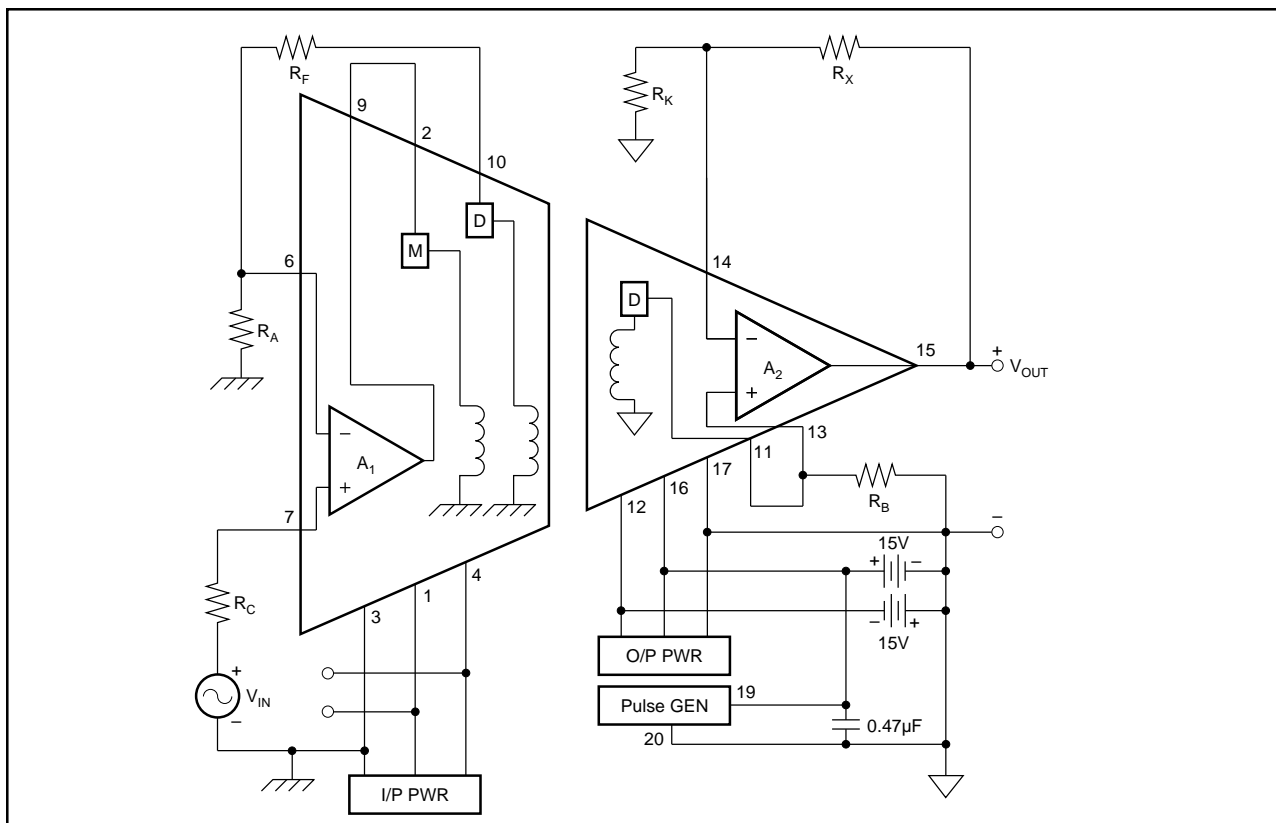

FIGURE 3. Power: Two-Port, Dual Supply; Signal: Noninverting Gain.
NOTES: (1) Ratings in parenthesis are between P– (pin 20) and O/P Com (pin 17). Other isolation ratings are between I/P Com and O/P Com or I/P Com and P–. (2) See Performance Curves. (3) May be trimmed to zero. (4) If output swing is unipolar, or if the output is not loaded, specification same as if external supply were used. (5) Includes effects of  $A_1$  and  $A_2$  offset voltages and bias currents if recommended resistors used. (6) Versus the sum of all external currents drawn from V+, V–, +V, –V (= ISO). (7) Effects of  $A_1$  and  $A_2$  bias currents and offset currents are included in Offset Voltage specifications. (8) With respect to I/P Com (pin 3) for  $A_1$  and with respect to O/P Com (pin 17) for  $A_2$ . CMR for  $A_1$  and  $A_2$  is 100dB, typical. (9) In configuration of Figure 3. Ripple frequency approximately 750kHz. Measurement bandwidth is 30kHz. (10) Decreases linearly from 16VDC at 85°C to 12VDC at 100°C. (11) Instantaneous peak current required from pins 19 and 20 at turn-on is 100mA for slow rising voltages (50ms) and 300mA for fast rises (50μs). (12) Load current is sum drawn from +V, –V, V+, V– (=  $I_{ISO}$ ). (13) Maximum voltage rating at pins 1 and 4 is ±18VDC; maximum voltage rating at pins 12 and 16 is ±18VDC. (14) Isolation ratings may degrade if exposed to 125°C for more than 1000 hours or 90°C for more than 50,000 hours.
Figure 3 shows two-port isolation which uses an external bipolar supply with its common connected to the output stage ground (pin 17). One of the supplies (either + or - could be used) provides power to the pulse generator (pins 19 and 20). The same sort of configuration is possible with the external supplies connected to the input stage. With the connection shown, filtering at pins 12 and 16 is not required. In this configuration continuous isolation voltage rating is: 3500VDC between pins 3 and 17; not applicable between pins 17 and 19; 3500VDC between pins 3 and 19.
The signal path portion of Figure 3 demonstrates two additional gain configurations: gain in the output stage and noninverting gain in the input stage. The following equations apply:
Use the resistor values obtained in Steps 3, 4, 8 and 9, and connect the 3656 as shown in Figure 3.